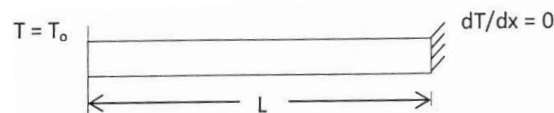

Fig.1 Rectangular fin
- b) Consider one dimensional steady-state heat conduction in rectangular horizontal fin as shown in Fig. 1 The rectangular fin is subjected to the boundary conditions are shown in Fig. 1.